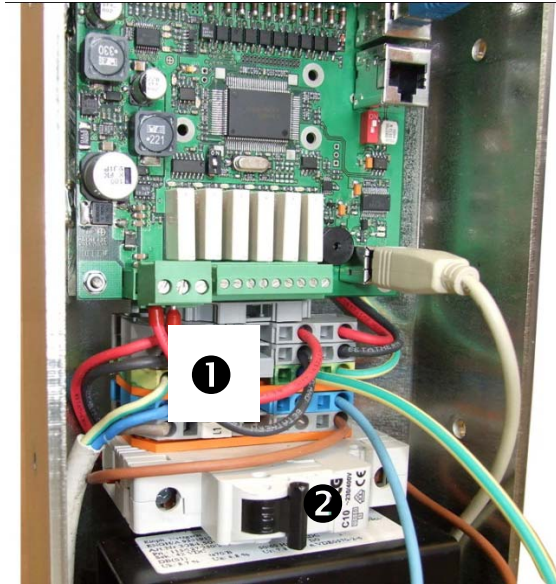

Fig. 14: Grid connection
1. Switch on main switch (1) (Fig. 14).
2. Fasten cover (9) with 6 cylinder head screws.